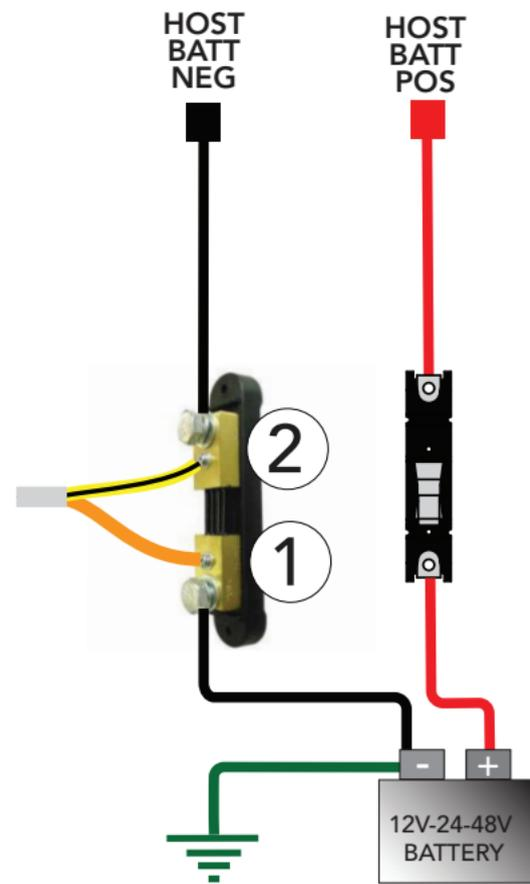

Figure 5-1. Negative Leg Shunt
**Step 2.** Install the shunt(s) on the circuit(s) to be measured, as seen in Figures 5-1 or 5-2, below. When installing more than one shunt in a system, wire all shunts with the same polarity.
**Step 3(A) or (B). Shunt to ReadyShunt Wiring****A. Negative Leg Installation** (see Figure 5-1 below).